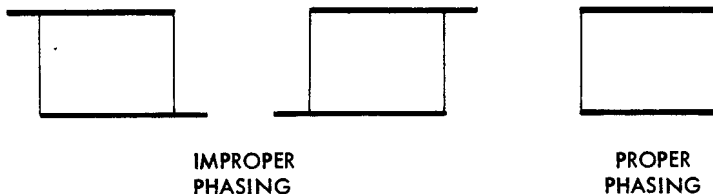

Fig. 9
2) A rectangular shaped trace should result from the preceding operations. Refer to the instructions for corrective operation of the PHASE control if there is any evidence of overlapping in the trace, indicating an incorrect phase adjustment. See Fig. 9.